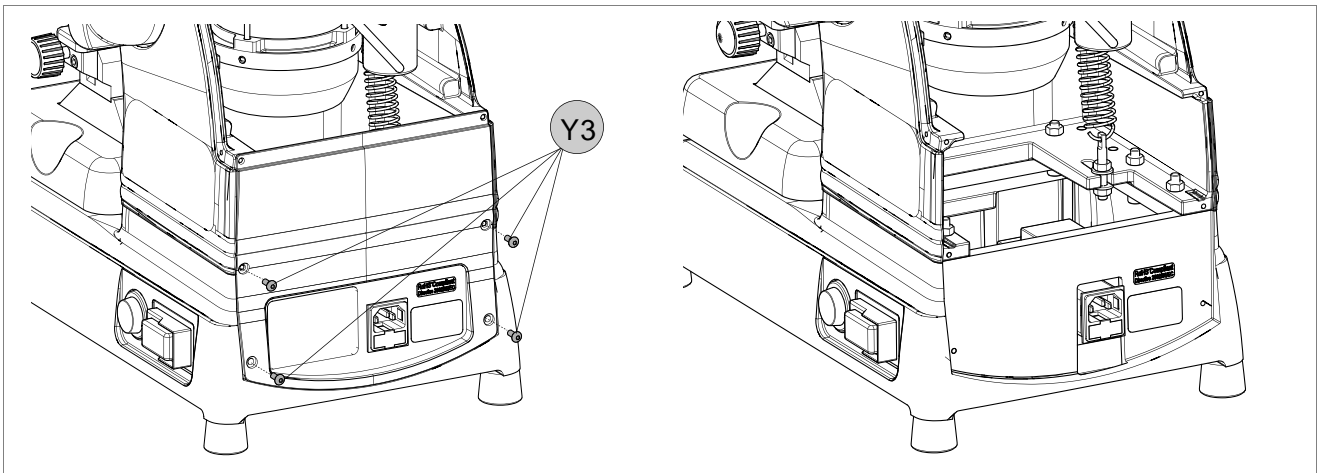

Fig. 42
- 3) Loosen the 4 screws (Y3) and remove the rear panel (Fig. 42).